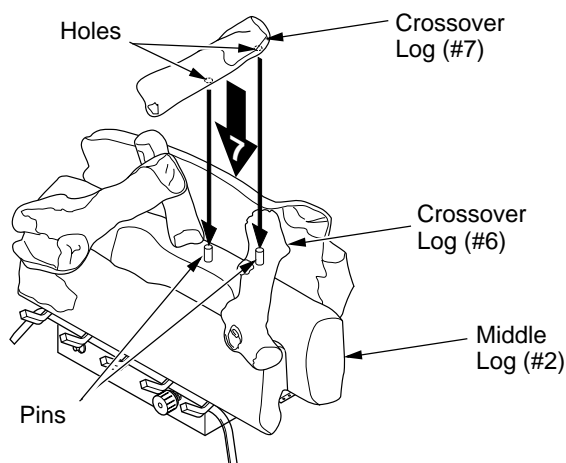

Figure 31 - Installing Crossover Log #7 (Model CCL3930PTB/NTB Only)
7. **For CCL3930PTB/NTB only:** Locate holes on the bottom of crossover log (#7). Slide onto the pins located in crossover log (#6) and middle log (#2). See Figure 31.